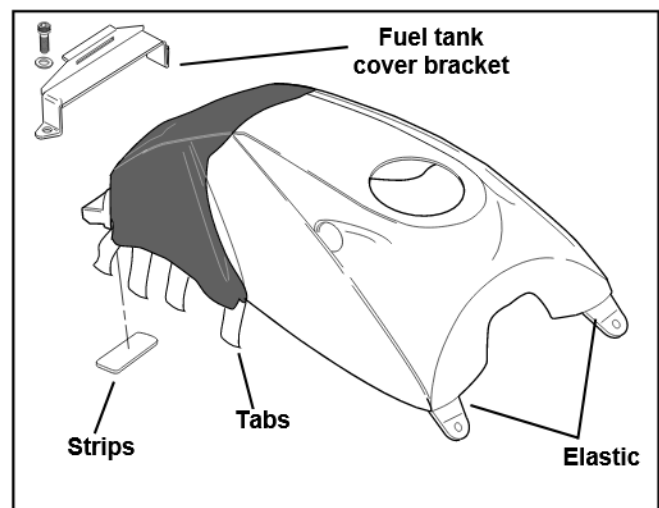

Figure 3. Mask Installation
5. See Figure 3. Insert the elastic portion of the mask over the front cover mount then pull the mask back so that it fits snugly and evenly over tank cover. The nylon portion (at rear) of the mask should be in position to be sandwiched between tank cover and tank cover bracket when bracket is reinstalled.